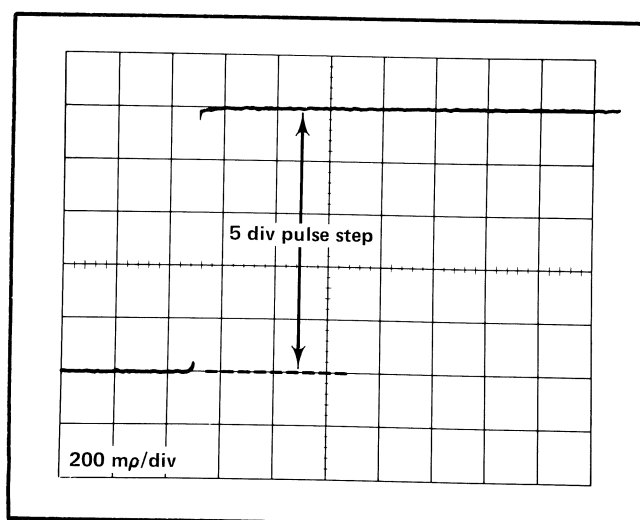

Fig. 6-16. Waveform showing the correct step amplitude for the ρ CAL control adjustment (Step 13).
d. Adjust the ρ CAL control (screwdriver adjust) for a five division step amplitude. See Fig. 6-16 for this waveform.